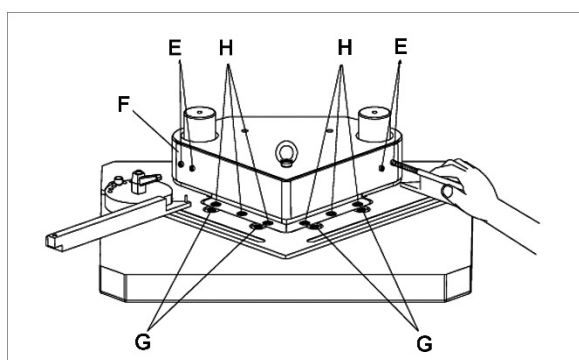
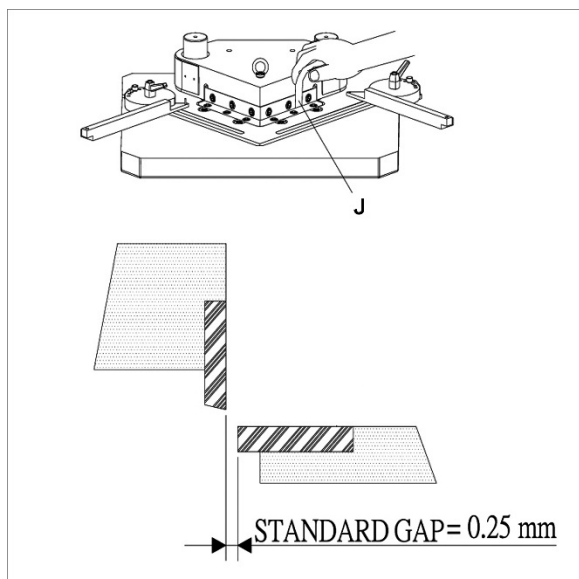

Figure 8-1: gap adjustment
Figure 8-2: gap adjustment
2. Remove screws (E, Figure 8-1) and guard (F).
3. Loosen cam screws (G) and blade screws (H).
4. Use provided 0.25mm feeler gauge to measure gap between upper and lower blades (J, Figure 8-2). Adjust blade against gauge using cam screws (G). Gauge should be snug but can still be smoothly removed.